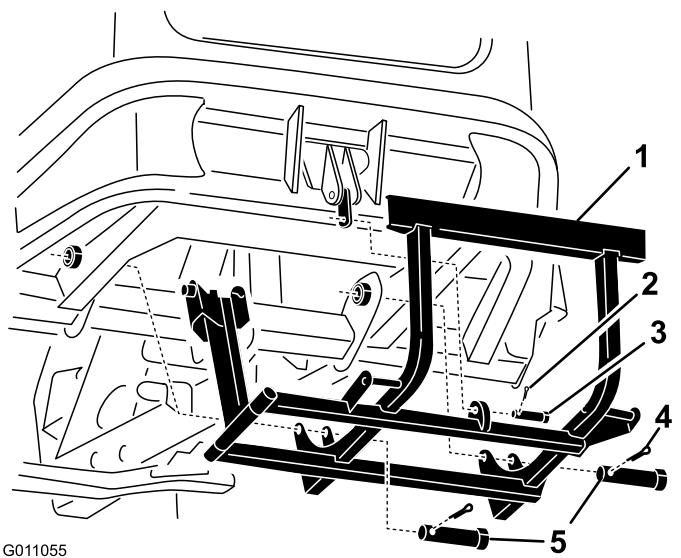

Figure 9
- Install the bagger mounting bracket to the bottom of the machine with 2 large clevis pins and 2 large cotter pins (Figure 9).
- Rotate the bagger mounting bracket up and attach it to the link with a small clevis pin and small cotter pin (Figure 9).